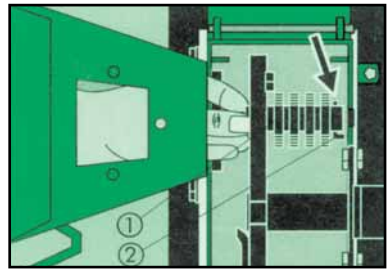

Fig. 6
the lock (2) (figure 6). Remove them through the opening in the green crop feeder. When removing them, to avoid unbalance and vibration of the shredder, always observe the position of the separating rings. Be careful not to mix the hammer sets (sides).